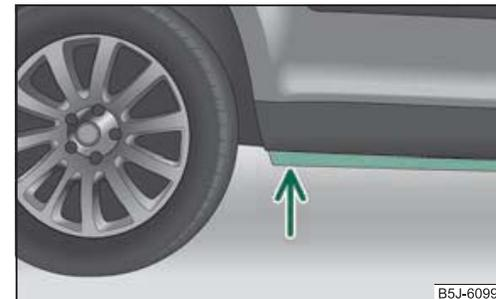

Fig. 137 Crossing bodies of water
- Determine the depth of the water when driving through bodies of water. The water can reach at the maximum the web on the lower sill of the vehicle ⇒ fig. 137.